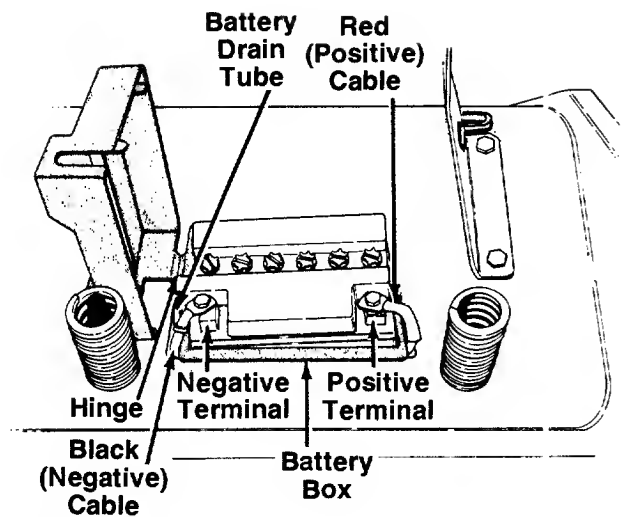

FIGURE 3.
1. Raise the seat bracket (on top of the fenders). Push any electrical wires out of the way so they are not disconnected when installing the battery box. Place the plastic battery box into the opening beneath the seat bracket. The hinge on the battery box goes toward the left side of the unit. Snap the battery box in place so the retaining edges on the box are beneath the fender. Make certain the battery cables are routed up along each side of the box. See figure 3.
2. Place the battery inside the battery box so that the positive terminal is toward the right side of the unit. See figure 3. Route the battery drain tube down beside the battery box.
3. Slide the hex nut (provided with battery hardware) into the positive (+) terminal. Place the positive (heavy red wire) cable on the positive terminal. Secure with bolt provided. See figure 3. Slide the rubber boot over the positive terminal.